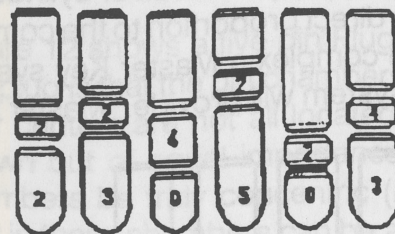

FIGURE 14
A six pin cylinder, Figure 14 with one Master Pin in each chamber will contain sixty four (64) different Shear Lines. Sixty four different keys can be cut that will operate this one cylinder.